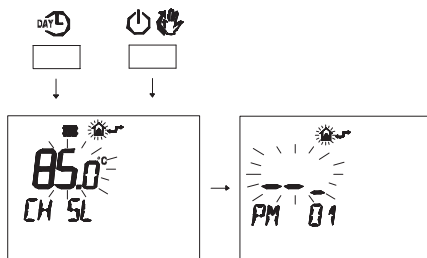

Fig. 7.32
- Press buttons **DAYL** and **POWER** at the same time to enter transparent programming (Fig. 7.32).